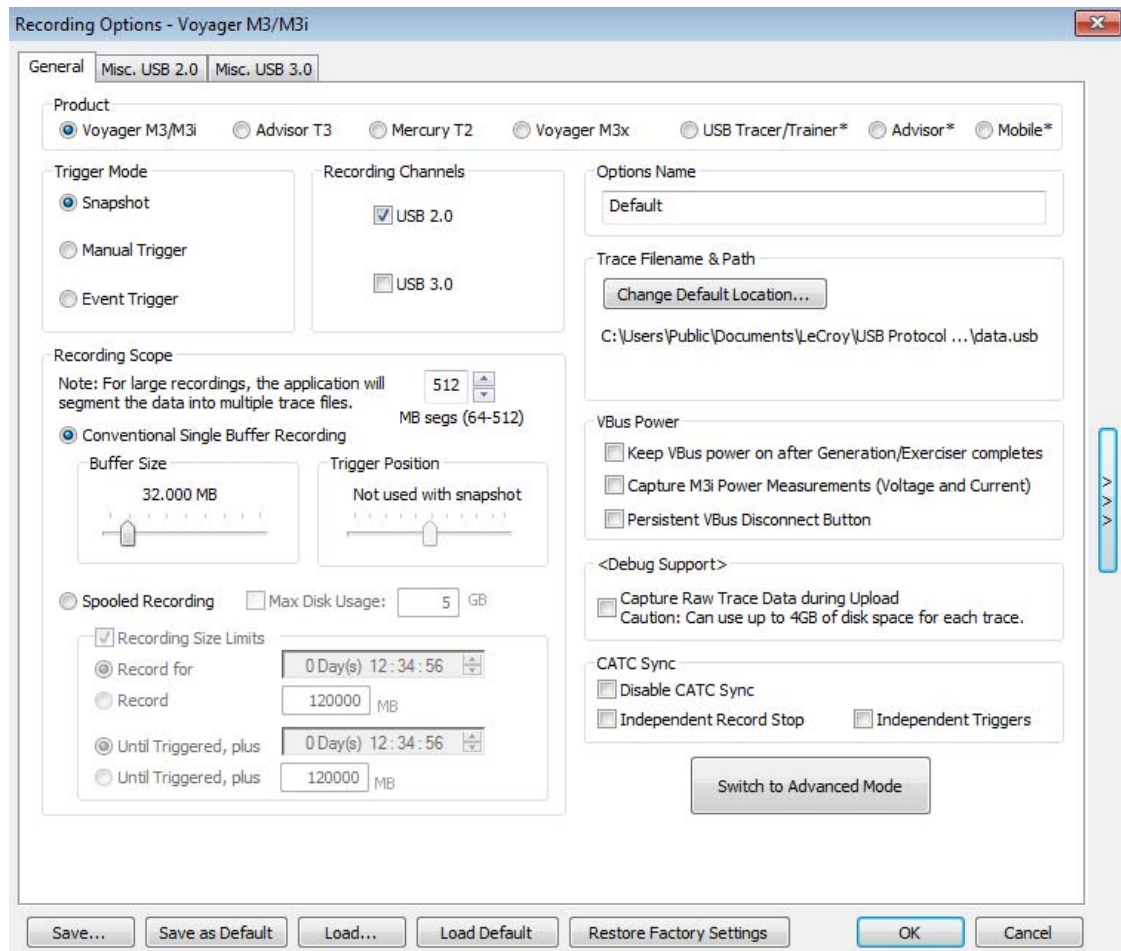

Figure 3.10: Recording Options - Voyager Dialog
3. Select the **General** tab to display a dialog box showing factory default settings, such as Snapshot and 4 MB buffer size (see Figure 3.10 on page 69). For the first recording, you can leave these settings unchanged. Under Recording Channels, select **2.0** to record USB 2.0 traffic.